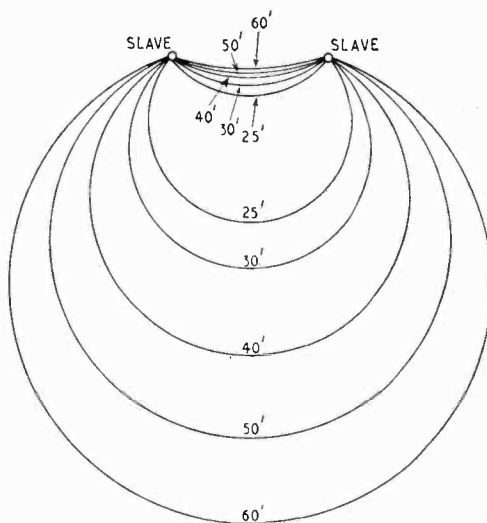

Fig. 3. Fixing-accuracy contours in feet for summer day-light operation. Contours are drawn for a 0.01 lane deviation.
**Random Errors.**—The phase errors so far described can be partly or wholly corrected. Rather more important are errors of a random character, which may be due to instability associated with wave propagation or with instrumental variations, or both. From sunset until sunrise at all seasons, and also during daylight in winter, random variations due to skywave interference start to become detectable at ship-to-shore distances of about 40 miles, and thereafter increase in magnitude with range. The actual survey operations requiring accurate fixing are, therefore, generally confined to daytime, but this does not apply to incidental manœuvres such as journeys between different survey areas, which call for a lower degree of accuracy than the survey itself. Typical random-error contours for the use of the system by day are indicated in Fig. 3. In practice, the overall accuracy of Two-range Decca has been such as to permit plotting of the results at a chart scale of 1:70,000 (about one inch per nautical mile) without the errors or variations due to the system itself being detectable at this map scale.